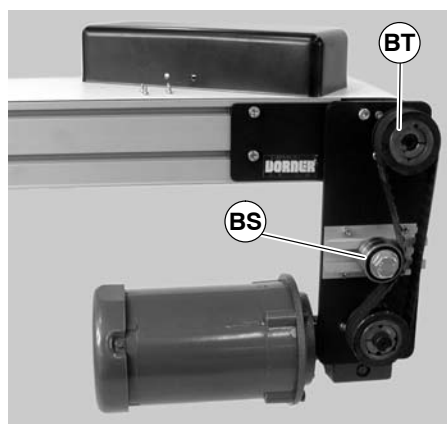
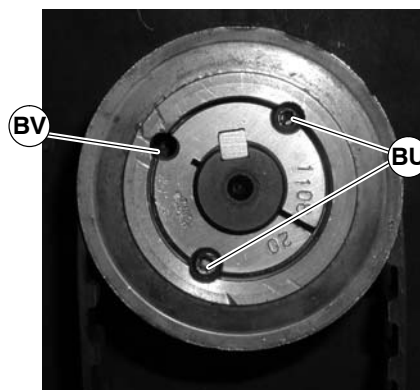

Figure 60
Figure 61
- 3) Loosen tensioner (BS of Figure 60).
- 4) Remove taper-lock screws (BU of Figure 61) on the driven pulley (BT of Figure 60). Insert one (1) of taper lock screws (BU of Figure 61) in remaining hole (BV). Tighten screw (BU) until pulley is loose. Remove pulley, taper hub assembly and timing belt.